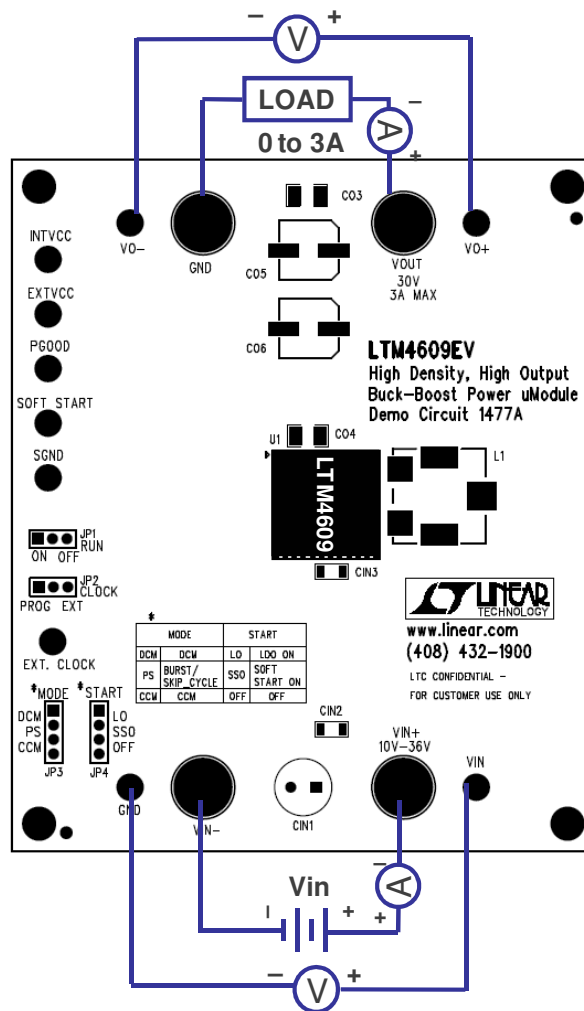

Figure 1. Test Setup of DC1477A
Demonstration circuit DC1477A is easy to set up to evaluate the performance of the LTM4609EV. Please refer to Figure 1 for proper measurement equipment setup and follow the procedure below:
2. With power off, connect the input power supply, load and meters as shown in Figure 1. Preset the load to 0A and V_{IN} supply to be less than 36V.